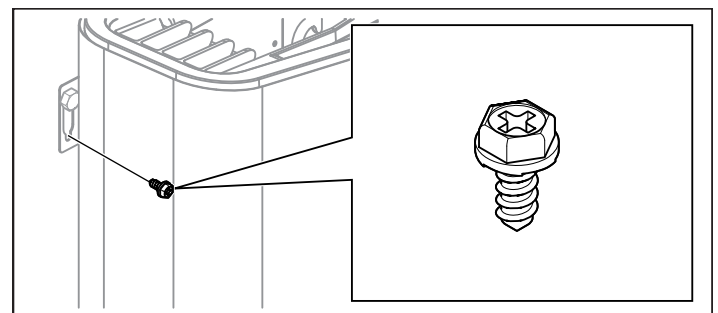

Figure 10: Lock screw for bracket
8. Lock the heater into place with the lock screw (see Figure 10).